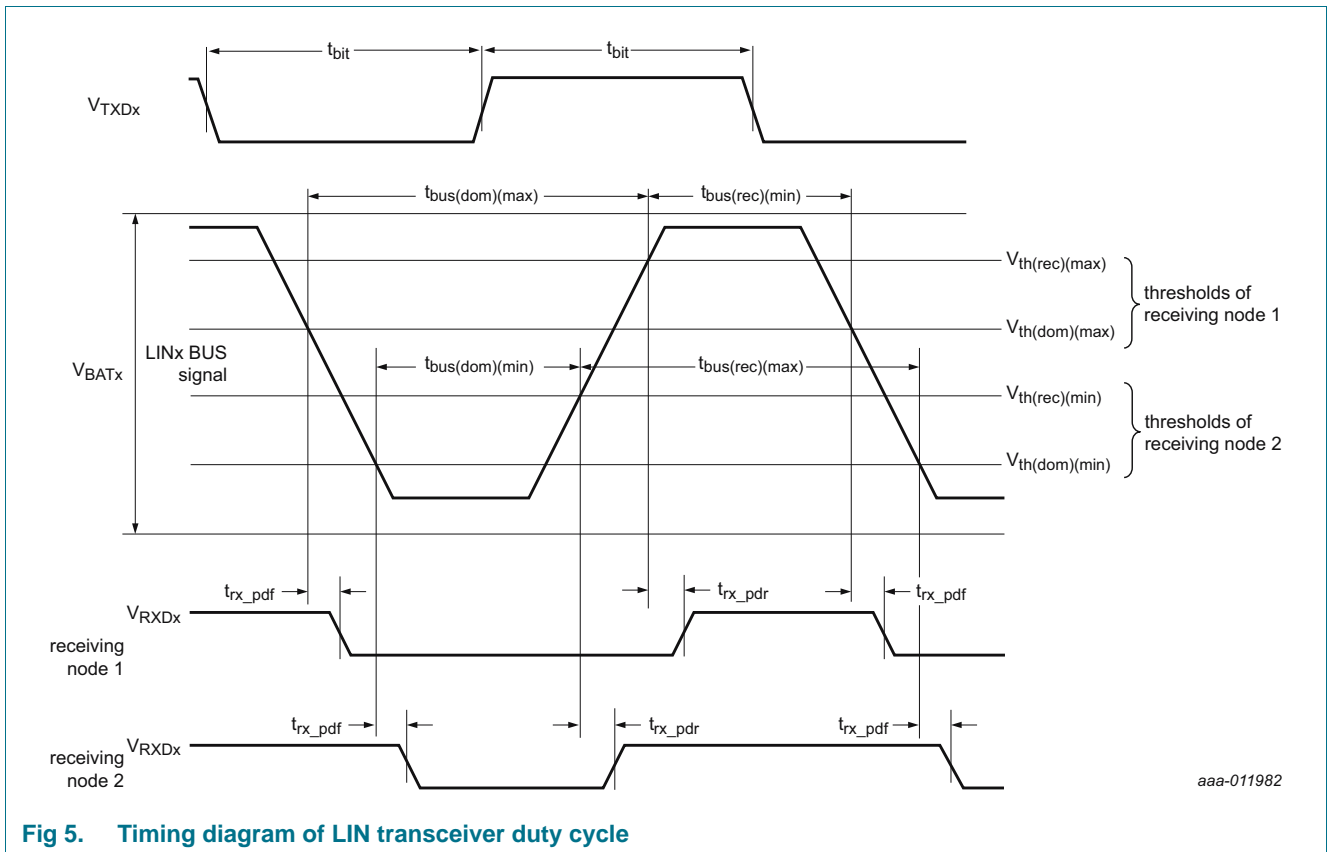

Fig 5. Timing diagram of LIN transceiver duty cycle
- [2] $\delta 1, \delta 3 = \frac{t_{bus(rec)(min)}}{2 \times t_{bit}}$. Variable $t_{bus(rec)(min)}$ is illustrated in the LIN timing diagram in Figure 5.
- [3] $\delta 2, \delta 4 = \frac{t_{bus(rec)(max)}}{2 \times t_{bit}}$. Variable $t_{bus(rec)(max)}$ is illustrated in the LIN timing diagram in Figure 5.
- [5] See timing diagram in Figure 5.